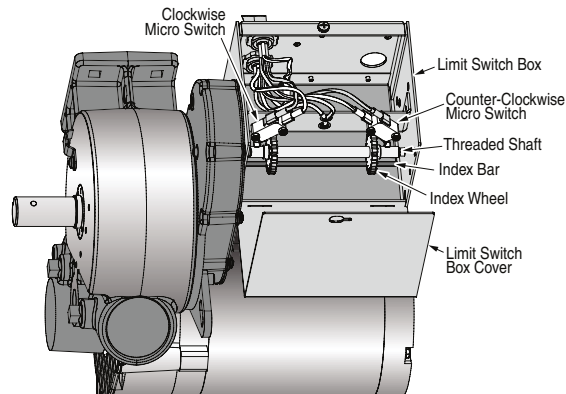

Figure 5
- Operate curtain up to the stored position and set limit (see Fig. 5). Operate curtain to the down position and set limit.